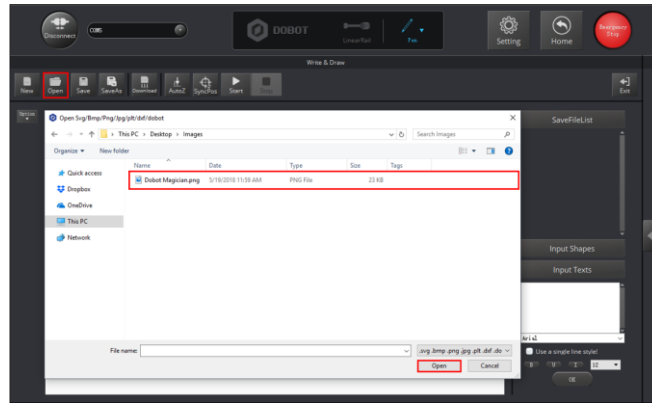
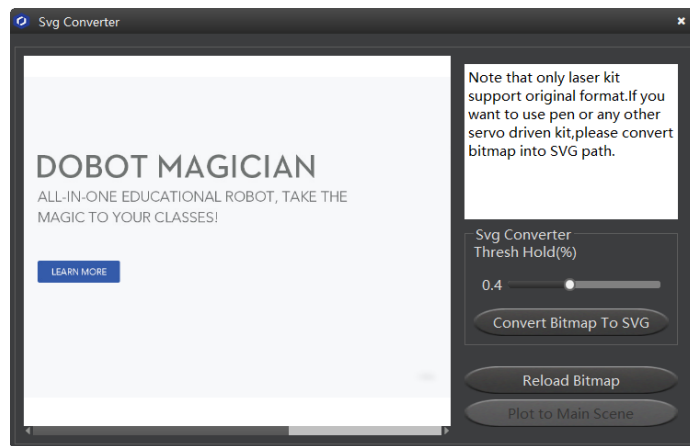

Figure 5.50 Import an image
Figure 5.51 Convert an image to SVG
- Click **Open** to import an image file such as BMP, JPEG, or PNG to convert this image to its corresponding SVG file that the DobotStudio supports, as shown in Figure 5.50. Once this image is imported, the **SVG Converter** dialog box is displayed, as shown in Figure 5.51. In this dialog box, drag the slider to set the black and white threshold, and click **Convert Bitmap To SVG** to perform the conversion, and then click **Plot to Main Scene** to display the converted SVG file on the annular area of the **Write & Draw** page.